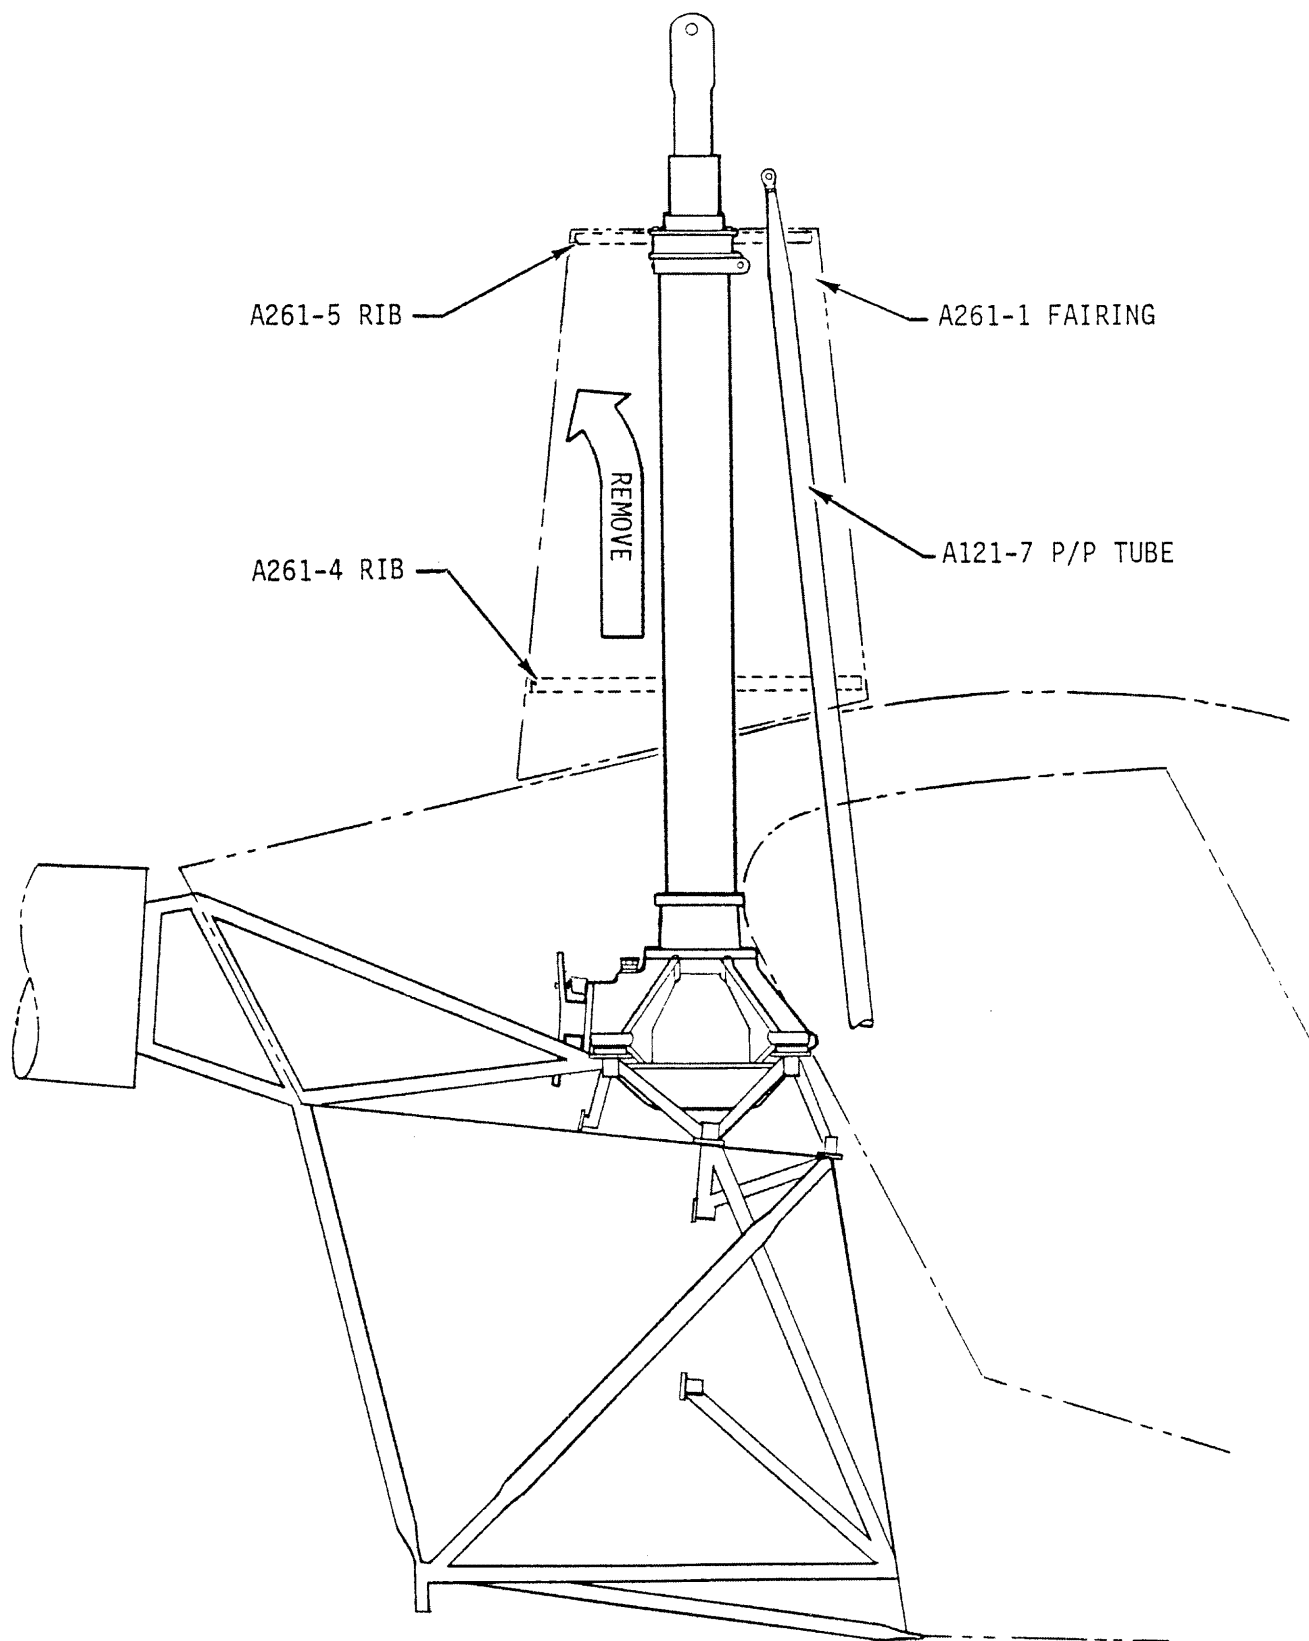

FIGURE 7-2 MAIN ROTOR GEARBOX REMOVAL
10. Remove four main rotor gearbox mounting bolts. Carefully lift gearbox up to clear forward push-pull tubes and remove gearbox (see Figure 7-2).